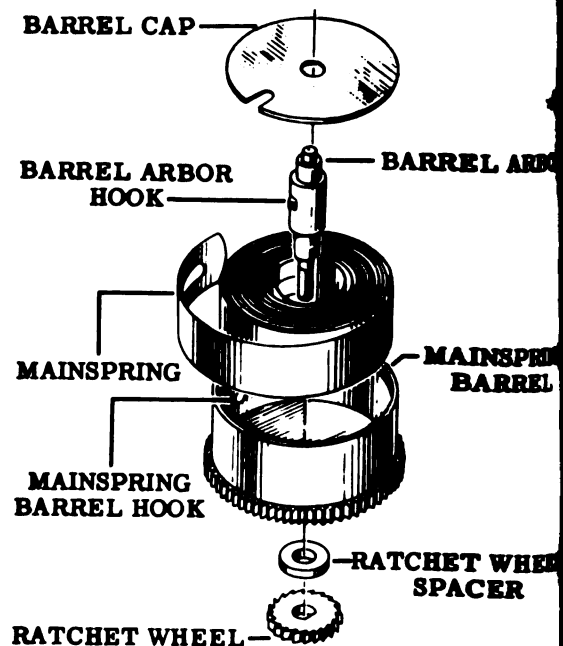

Figure 120
15. Place the ratchet wheel spacer and the ratchet wheel on the barrel arbor. See Fig. 120. Mount the barrel into its hole on the front plate. Check to see that the click properly engages the ratchet wheel.